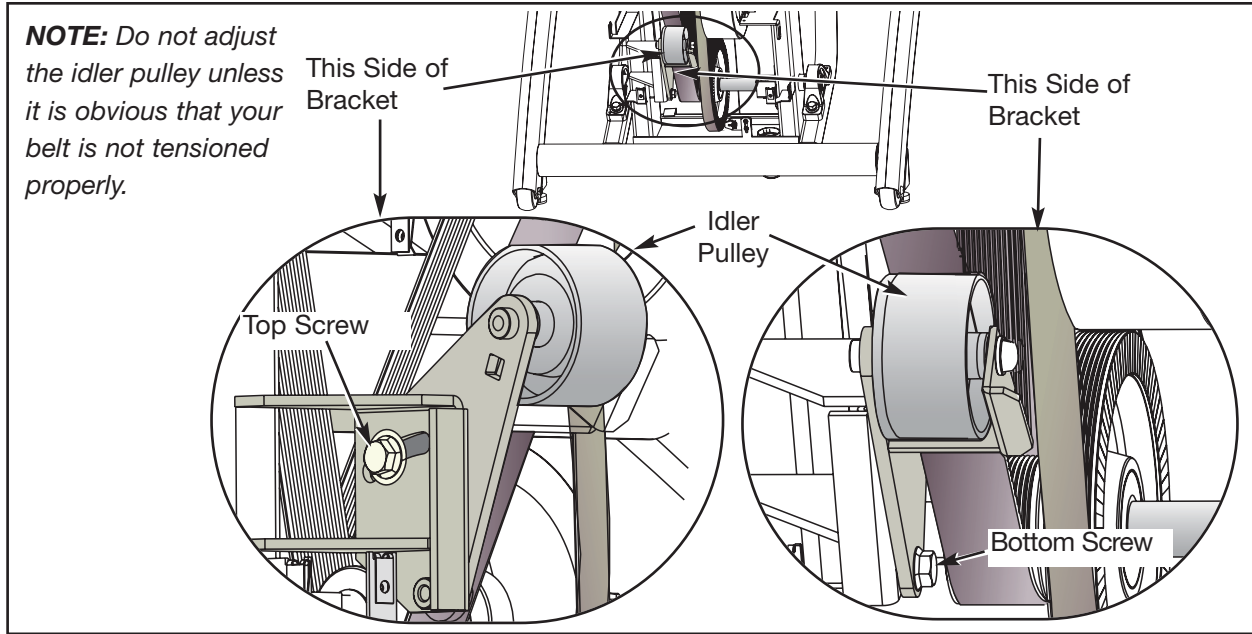

Figure 14
- A. Using a 1/2" socket wrench, loosen the bottom screw on the idler pulley. See Figure 14.
- B. Using a 1/2" socket wrench, loosen the top screw on the idler pulley See Figure 14.
- B. While holding the torque wrench at 75 ft-lbs, use a 1/2" socket wrench to tighten the top screw on the idler pulley. See Figure 14.
- C. Using a 1/2" socket wrench, tighten the bottom screw on the idler pulley. See Figure 14.